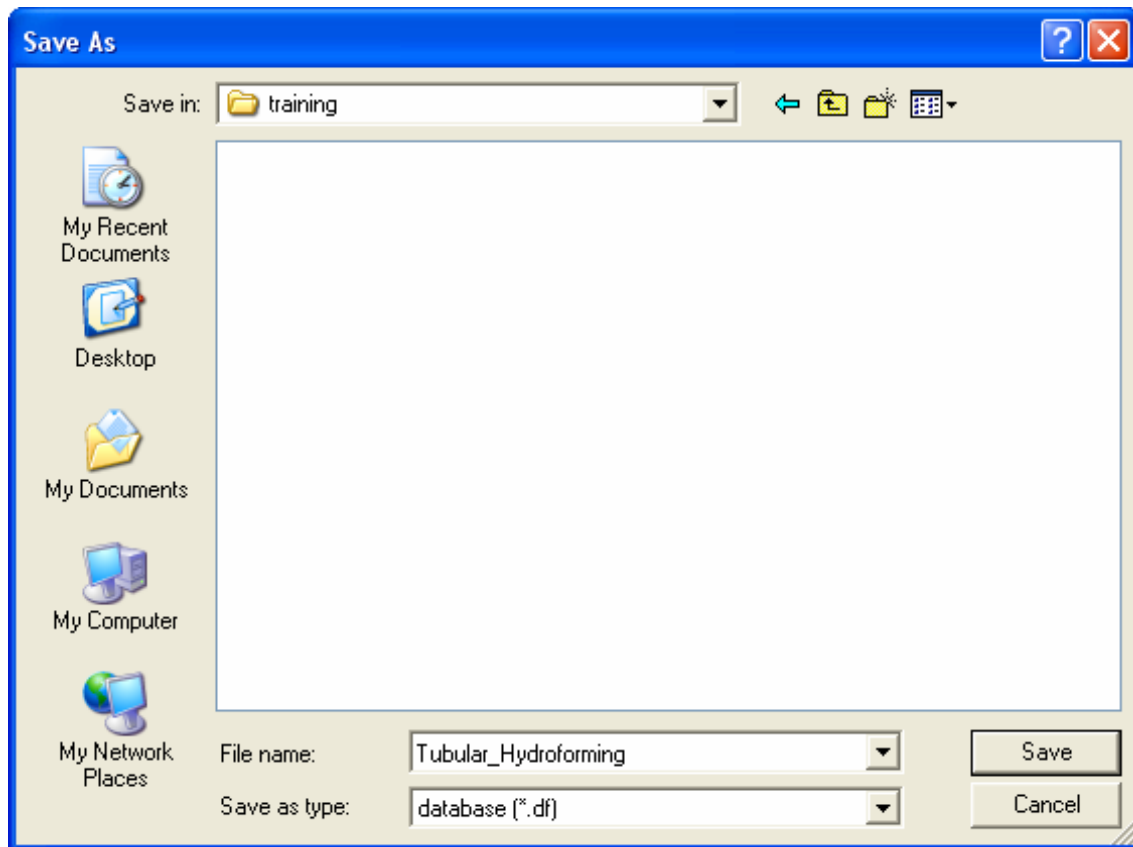

Figure 3.3 Save as dialog box
1. Click **Save** icon from the **Icon bar** to pop up SAVE AS dialog box illustrated in Figure 3.3.